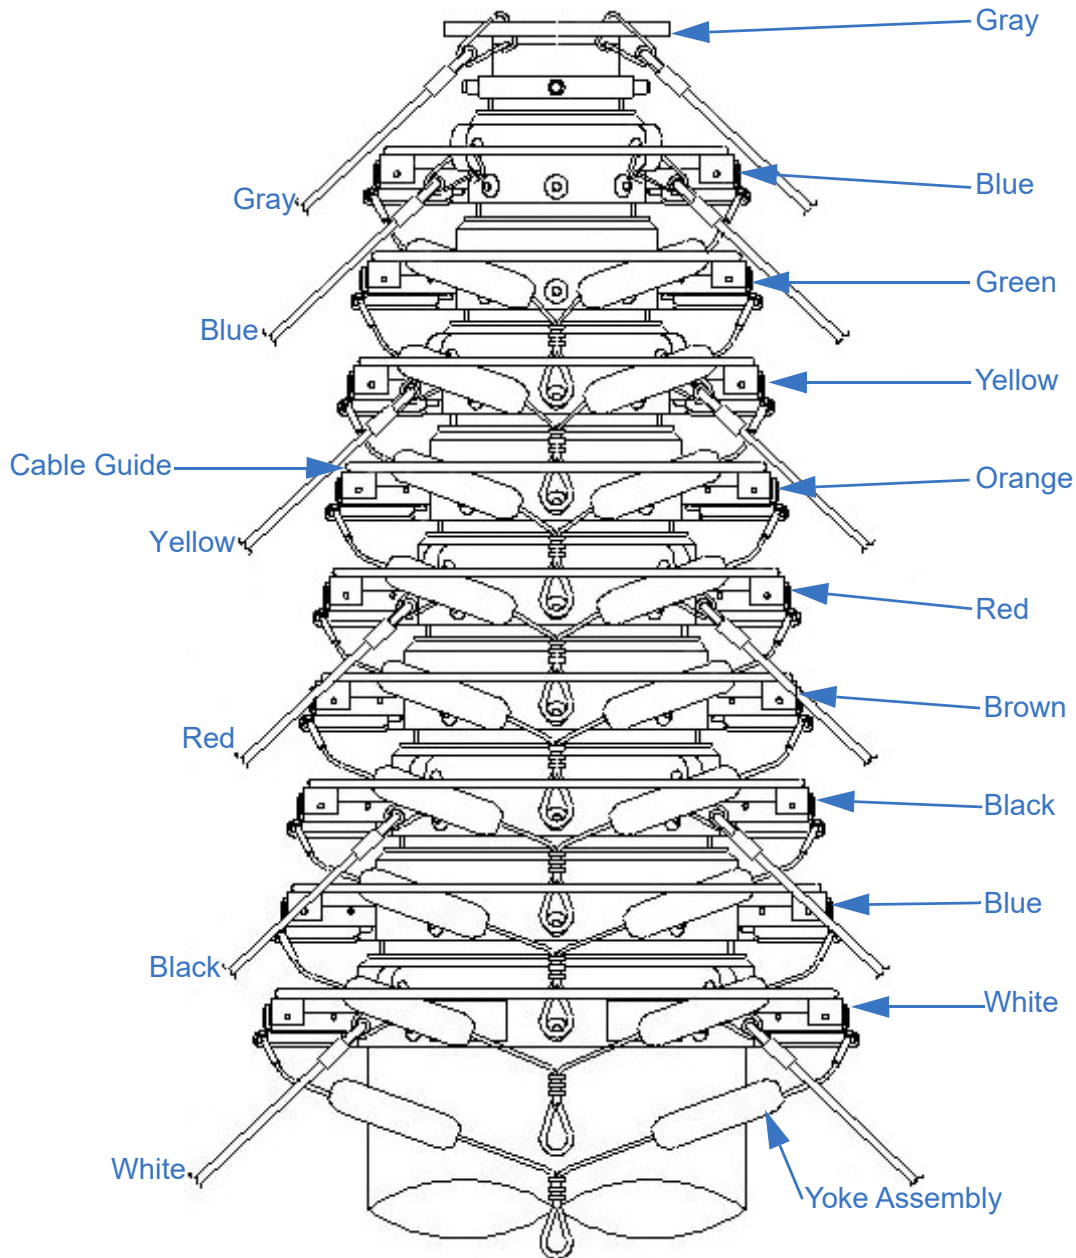

Figure 6-3 Sample of Guy Line Attachment on a Mast with Cable Guides (Mast with Trip Lines Shown)
- If guy lines are used, attach the guy lines to the color-coded lugs on the collars. If cable guides are present, ensure the guy lines are outside the cable guides for the collars below where they attach (Figure 6-3).